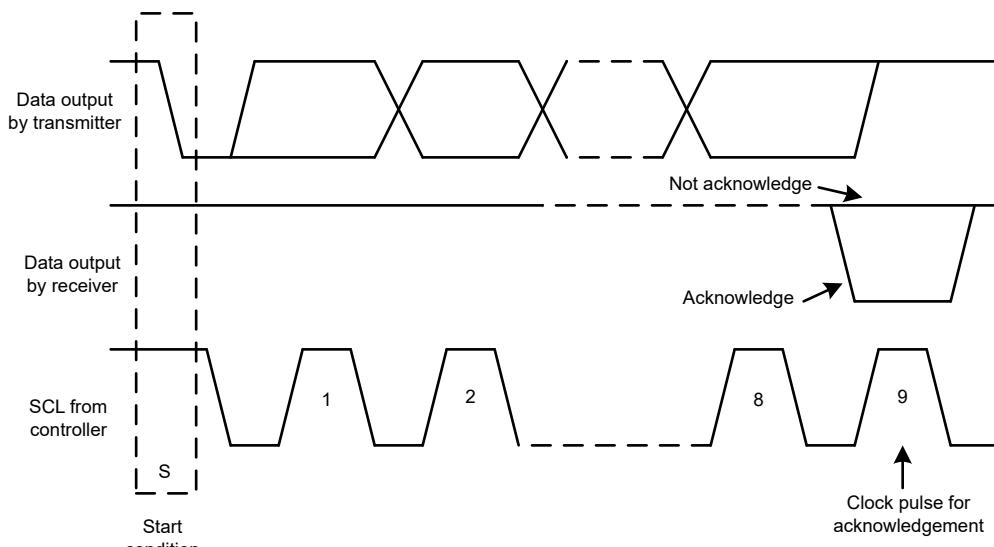
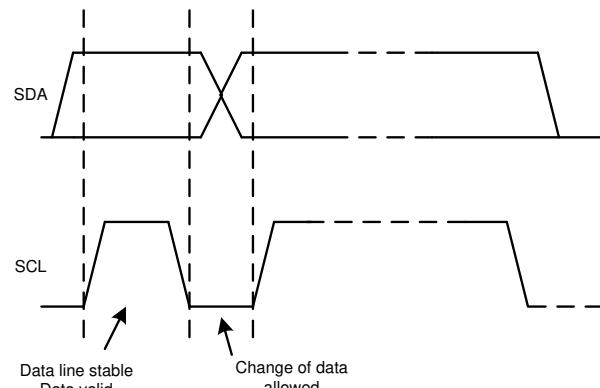

图 7-18. Acknowledge and Not Acknowledge on the I²C Bus
图 7-20. Bit Transfer on the I²C Bus
Other than specific timing signals, the I²C interface works with serial bytes. At the end of each byte, a ninth clock cycle generates and detects an acknowledge signal. An acknowledge is when the SDA line is pulled low during the high period of the ninth clock cycle. 图 7-18 depicts a not-acknowledge, when the SDA line is left high during the high period of the ninth clock cycle.
2. The controller then generates the SCL pulses, and transmits the 7-bit address and the read/write direction bit (R/W) on the SDA line. During all transmissions, the controller makes sure that data are valid. 图 7-20 shows that a valid data condition requires the SDA line to be stable during the entire high period of the clock pulse. All devices recognize the address sent by the controller and compare the address to the respective internal fixed address. Only the target device with a matching address generates an acknowledge by pulling the SDA line low during the entire high period of the 9th SCL cycle (see also 图 7-18). When the controller detects this acknowledge, the communication link with a target has been established.